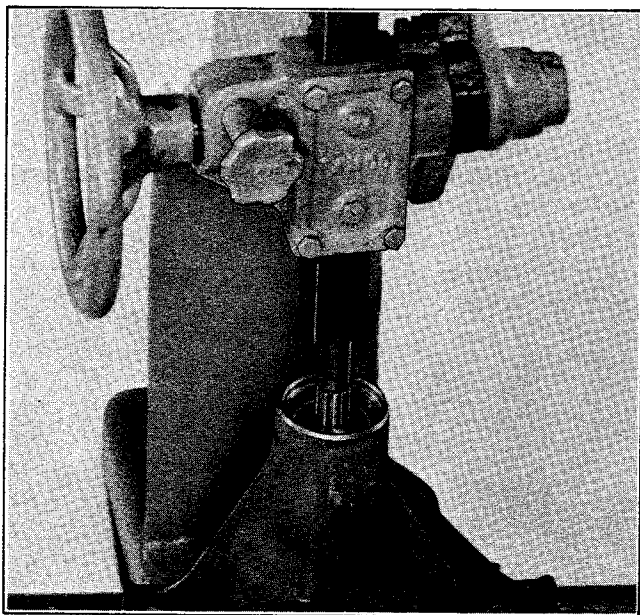

Figure 2-8. Pressing Shaft Out
9. Remove shims (11). NOTE: If drive gear and drive pinion are to be reassembled, note position of shims and replace accordingly.
10. Remove screws (12) and drive gear (13).
11. Remove differential pinion mate shaft (14), differential pinion mates (15) and thrust washers (16), (one back of each pinion). Remove differential side gears (17) and thrust washers (18), (one back of each gear).
13. Remove pinion nut cup (19). Remove and discard pinion shaft nut (20). Remove oil slinger (21).
14. Place housing assembly on arbor press similar to one shown in Figure 2-8. Press out shaft (22). Drive pinion shaft rear bearing cone (23) will remain on shaft. Remove bearing cone (26), bearing spacer sleeve (24) and adjusting shims (25), placing these parts with pinion shaft.